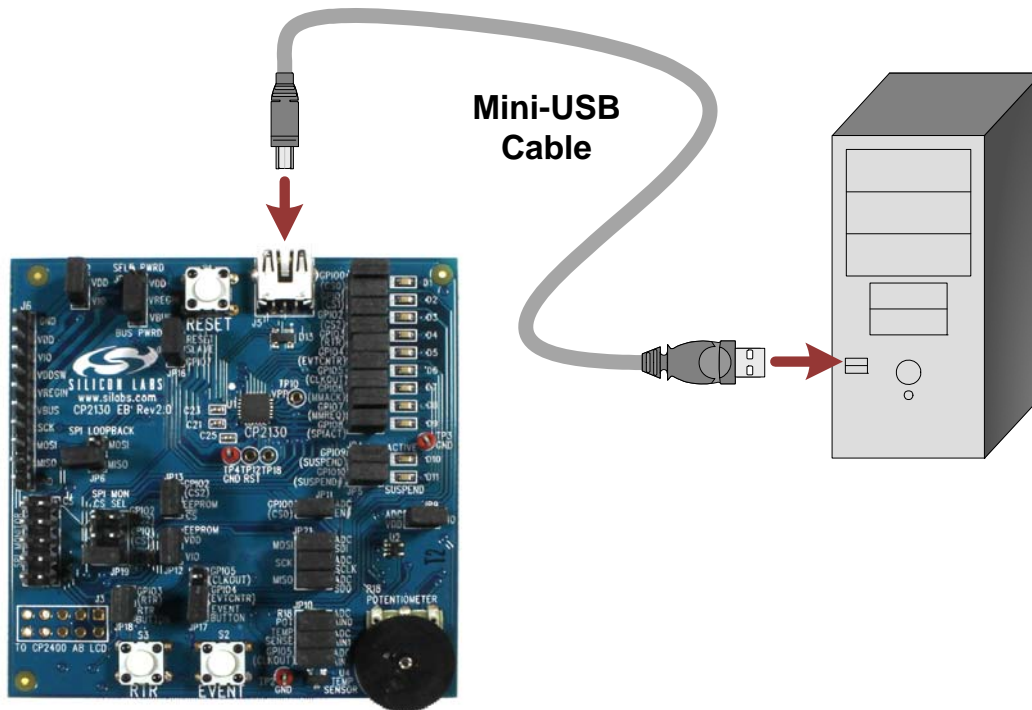

Figure 1. Hardware Setup
1. Connect the CP2130 Evaluation Board to a PC as shown in Figure 1.
1. Make sure that the hardware is connected to a Windows PC as shown in Figure 1. If the device is properly connected, the green Active LED on the CP2130 Evaluation Board will turn on. After a few seconds of inactivity, the green Active LED may turn off, and the red Suspend LED will then turn on to indicate that the device has entered USB suspend mode. This is part of a power-saving feature called USB selective suspend.